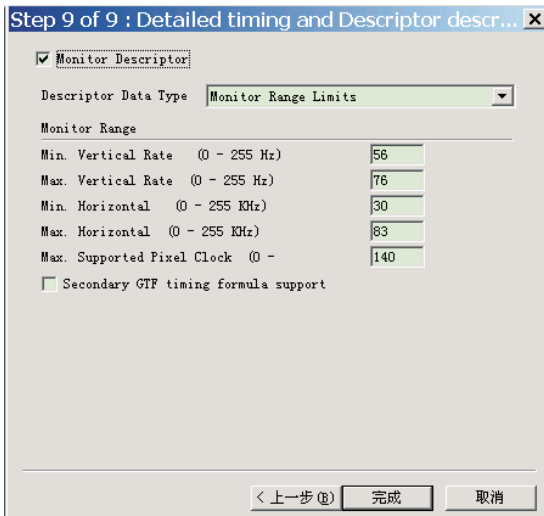

Fig.39
8. Click Next , bring up Fig. 39.